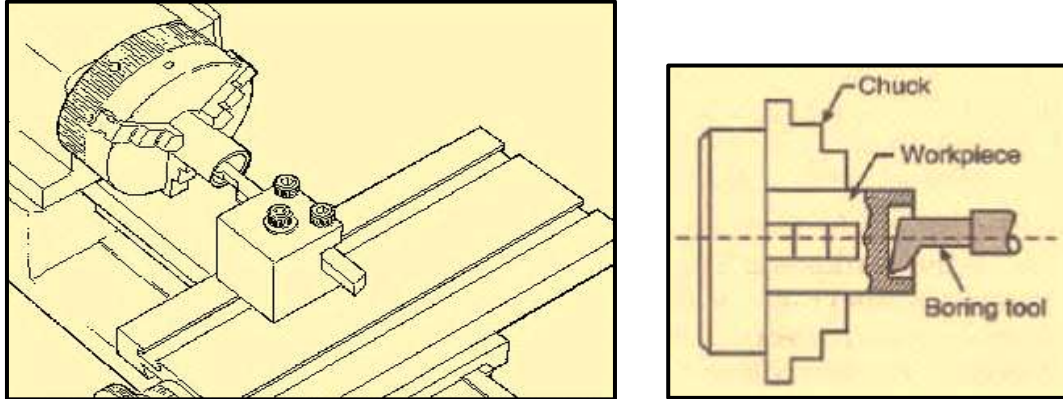

Figure 7-76: Boring with the lathe
Tapping can be done on the lathe **by power or by hand**. Regardless of the method, the hole must be drilled with the proper sized tap drill and chamfered at the end. The shank end of the tap is supported by the tailstock center. A slight pressure is maintained against the tap to keep its center hole on the center and to help the cutting teeth of the tap engage the work. Always use a lubricant or coolant for this operation. (Figure 7-76).
**Boring Cutter Bit Setup:** The cutter bit used for boring is similar to that used for external turning on the lathe. The bit is usually held in a soft or semisoft bar called a boring tool bar. Boring tool bars are supplied in several types and sizes for holding different cutter bits. The bit is supported in the boring tool bar at a 90°, 30°, or 45° angle, and most general boring is accomplished with a 90° cutter bit. (Figure 7-76).